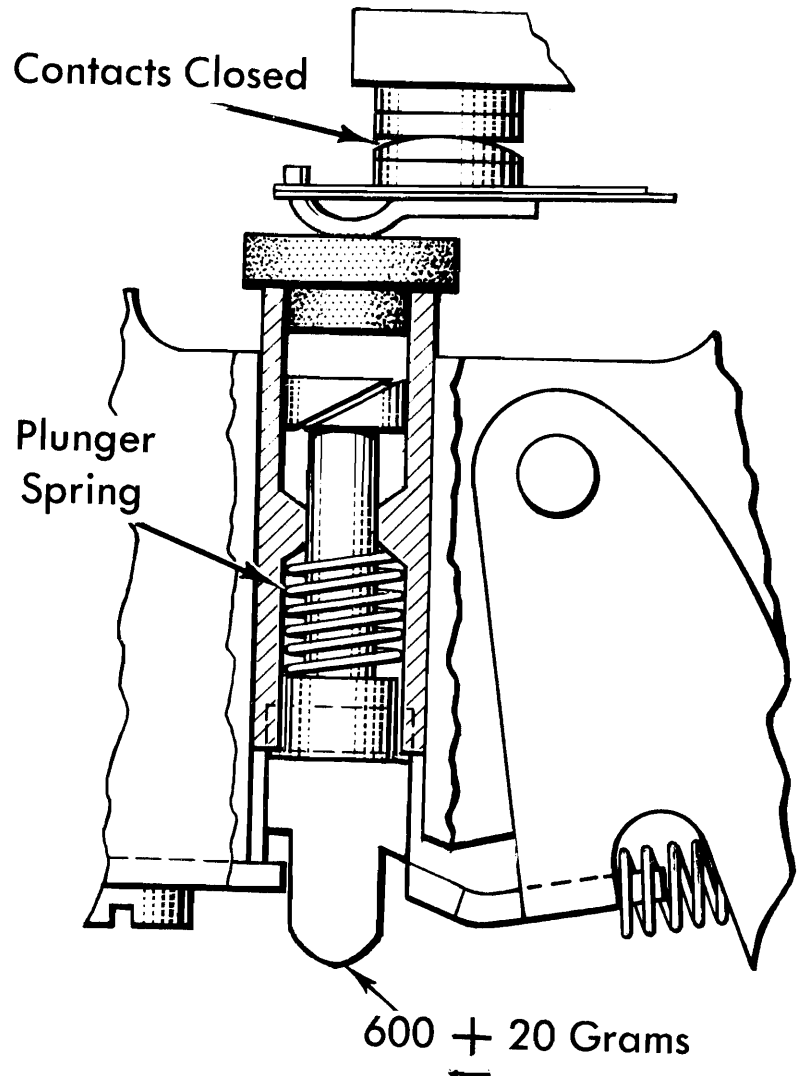

Figure 14. Latching Plunger Circuit Breaker, Adjustment 5
5. A pressure of 600 grams plus or minus 20 grams, (approximately 21 oz.) on the contact plunger (Figure 14) should be required to compress the plunger spring to the latching point. These values have been tested and found to provide a good operating condition.